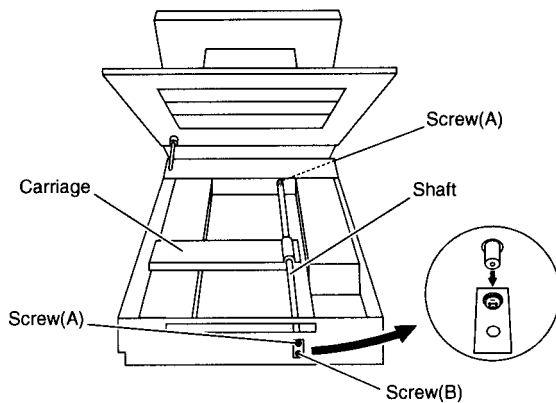

Fig. 4-24
- 3) Remove 2 screws (A) and Loosen screw (B) and pull out Shaft, as shown in Fig. 4-24.